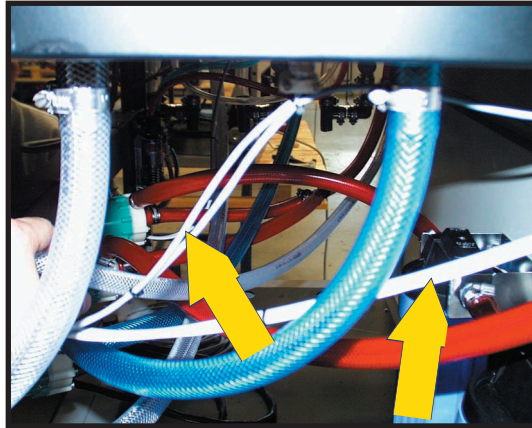

Fig. 9.
8) Connect the outlet of the new pump to the inlet of filter 25u, as shown at Fig. 9.